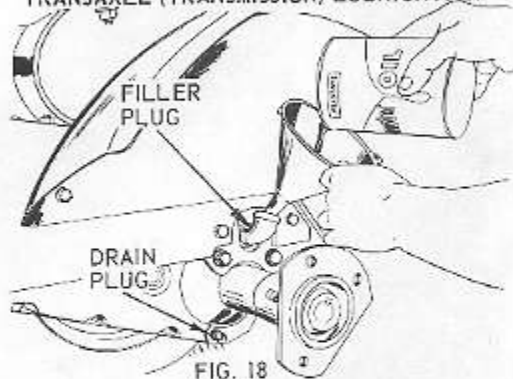

FIG. 18
1. Check oil in transaxle every 50 hours of operation. To check oil level, remove filler plug (Fig. 18), from transaxle. Oil level should be even with this plug.